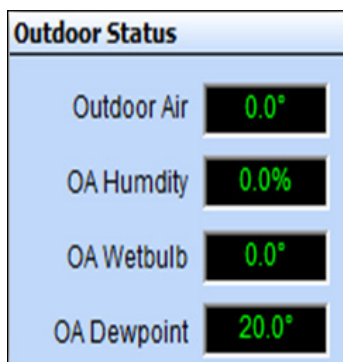

Figure 70: Outdoor Status Window
The *Outdoor Status Window* is located in the center of the *GPC-XP Controller Status Screen* (Figure 8, page 11) and displays the Outdoor Air (OA) Temperature, the OA Humidity, the OA Wetbulb, and OA Dewpoint. See Figure 70 below.